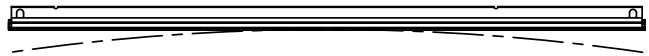

Figure 23. Rail Deformation
- a. If the straight edge only touches the blade when the table is positioned midway along the rail or at the ends of the rail, then the rail may be deformed (i.e. bowed). See Figure 23. Perform test cuts to determine if the rail should be replaced. Typically, a bowing displacement of up to 0.2mm (.008 in.) will not affect cutting accuracy.